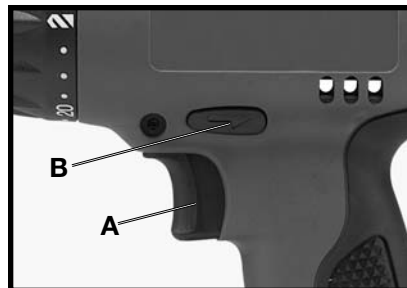

Fig. 1
Squeeze trigger switch (A) Fig. 1, to start motor. Release trigger to stop motor. As the trigger is squeezed the motor speed increases.
- Make sure trigger switch (A) Fig. 1, is in OFF position before attempting to change direction of rotation.
- Push button (B) Fig. 1, toward left side of drill for FORWARD (clockwise) rotation.
- Push button (B) Fig. 1, toward right side of drill for REVERSE (counterclockwise) rotation.
- Place button (B) Fig. 1, in center position to lock trigger switch in OFF position.